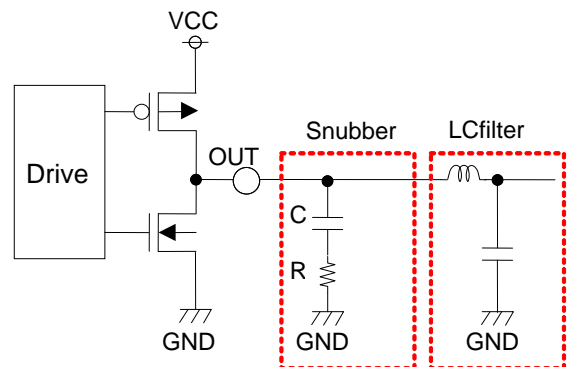

Figure 81. snubber schematic
- ① Measure the spike resonance frequency  $f_1$  of the PWM output wave shape (When it stands up.) by using FET probe in the OUT terminal. (Figure 81) The FET probe is to monitor very near pin and shorten ground lead at the time of that.
- ② Measure resonance frequency  $f_2$  of the spike as a snubber circuit fixed number  $R=0\Omega$  (Only with the condenser C, to connect GND) At this time, the value of the condenser C is adjusted until it becomes half of the frequency ( $2f_2=f_1$ ) of the resonance frequency  $f_1$  of ①. The value of C which it could get here is three times of the parasitic capacity  $C_p$  that a spike is formed. ( $C=3C_p$ )
- ③ Parasitic inductance  $L_p$  is looked for at the next formula.